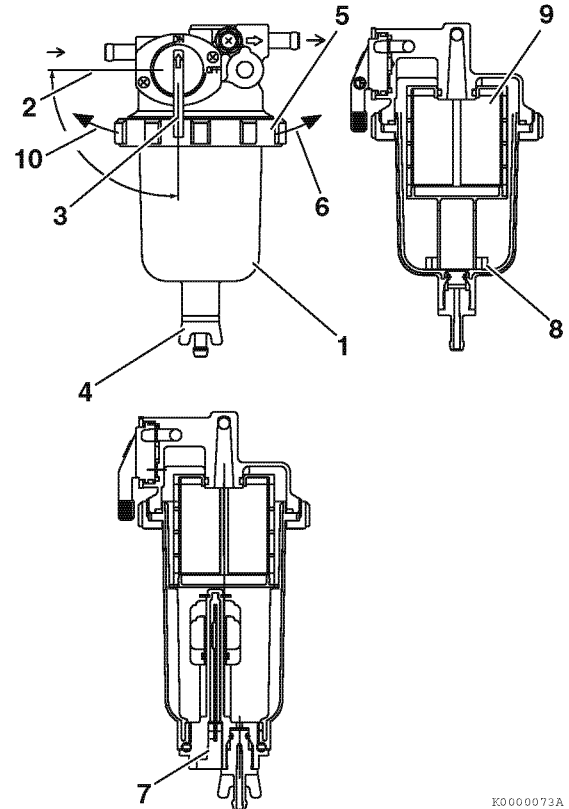

Figure 5-12
1. Position an approved container under the cup (Figure 5-12, (1)) of the fuel filter/water separator to collect the contaminants.
2. Close (Figure 5-12, (2)) the fuel cock (Figure 5-12, (3)).
3. Loosen the drain cock (Figure 5-12, (4)) and drain the contaminants. *See Drain fuel filter/water separator on page 5-8.*
4. Turn the retaining ring (Figure 5-12, (5)) to the left (Figure 5-12, (10)) and remove the cup (Figure 5-12, (6)). If equipped, disconnect the sensor wire (Figure 5-12, (7)) from the cup before removing the cup.
6. Remove the float ring (Figure 5-12, (8)) from the cup. Pour the contaminants into the container and dispose of it properly.
7. Clean the element (**Figure 5-12, (9)**) and inside cup. Replace the element if it is damaged.
11. Install the cup to the bracket by tightening the retaining ring to the right (**Figure 5-12, (6)**) to a torque of 11 - 15 ft·lb (15 - 20 N·m; 1.5 - 2.0 kgf·m).
13. Open the fuel cock (**Figure 5-12, (3)**).